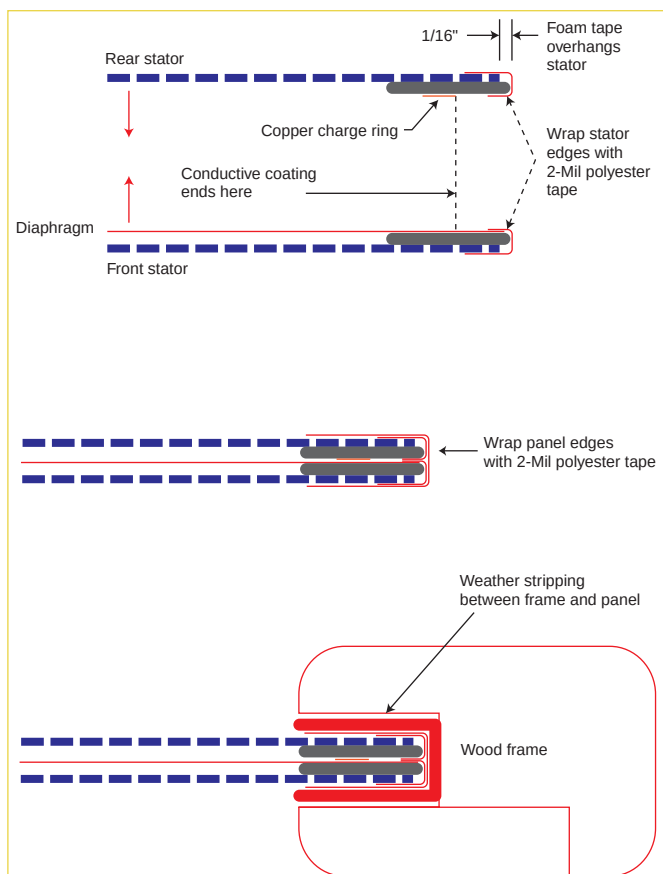

Figure 2: A section view of stator and panel edges
Because electrical field-strength falls off quadratically with distance, minimal diaphragm-to-stator spacing (d/s) is essential for high output, but we still need enough room for the diaphragm to move and make sound without striking the stators (see **Figure 2**). For hybrid panels operating above 200 Hz, as little as 0.062" d/s can be used. My spacers are 3M 0.062 × 0.75" double-sided urethane foam tape. The tape bonds the diaphragm to the stator instantly with minimal fuss and greatly simplifies panel construction. The tape is applied to the stators' periphery edges as shown. My 12"-wide panels also have two 0.375"-wide center support-spacers, which divide the diaphragm area into three vertical sections. Sanders's Cookbook recommends spacing the supports at intervals equivalent to 70 to 100× the d/s. The relatively close spacing of my supports ensures that bass energy (including pressure waves off the woofer) can't drive the diaphragms into the stators at high volume.
- Over-wrap the outer 0.125" of the edges with 2-MIL polyester packing tape as shown in **Figure 2**. (It enhances the electrical insulation along the stator edges.)
Mate the stators together and press along the tapelines to secure the bond. The foam tape makes a permanent bond on contact, so the stators must be exactly aligned when contact is made. This is properly a two-person job but I managed to do it alone by standing the stators vertically, on-edge, on a worktable. After assembly, the panel edges were over-wrapped again with polyester packing tape as shown in **Figure 2**. Murphy’s Law gives no quarter, but if all steps were done right, there is virtually no chance of arcing at the panel edges, which is the number one cause of failure in DIY perf-metal panels.